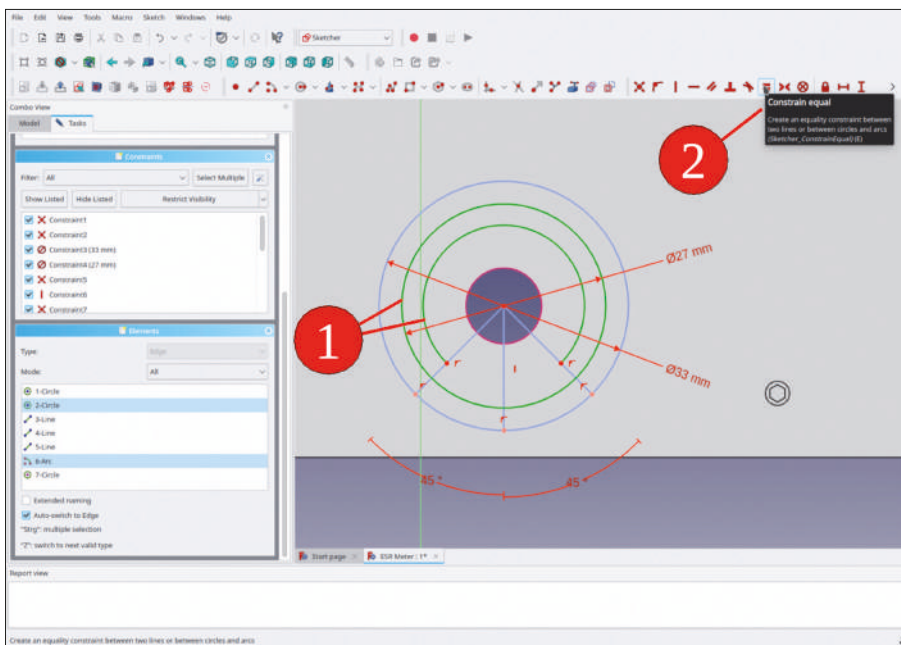

Figure 8-23
9. On the sketch, mark the arc and the inner construction circle. Then, click the 'Constrain equal' tool button (Figure 8-23).